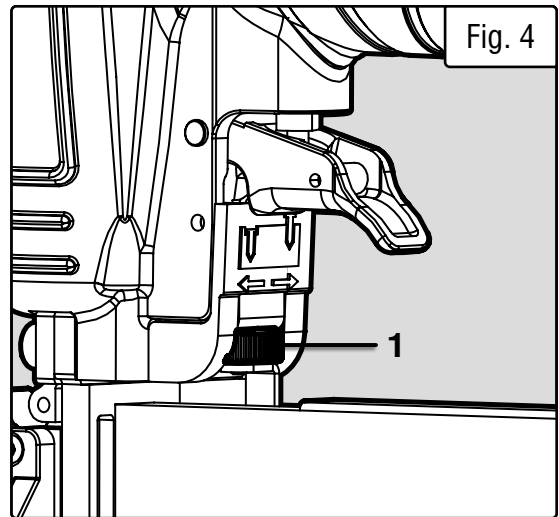

Fig. 4
Use the depth adjustment wheel (Fig. 4 - 1) found directly underneath the trigger to adjust the depth of the fired nails. Turn the wheel to the left for deeper nails and right for shallower nails.
2. Turn the depth adjustment wheel (Fig. 4 - 1) to set the depth of the fired nail. For flooring, it is suggested to always fire at the deepest depth.